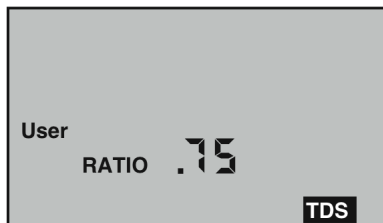

Figure 4
- b. Press  $\frac{\text{CAL}}{\text{MCLR}}$  twice (to skip over tempco adjustment) and “RATIO” will appear (see Figure 4).